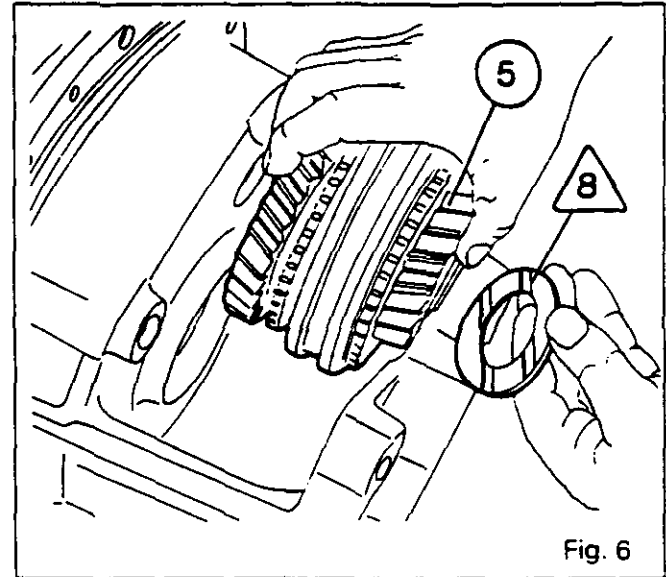

Fig. 6
33. If removed, place the washer /35\ pointing the grooves towards the gear (27). Using a press and an appropriate device, fit the cone (24) fully home on the washer.
34. Fit gear (5) and bush /7\ . Fit the needle roller bearing (6) the cone (4), the ring (3), the synchromesh, the ring (21), the cone (22), the gear (23), the needle roller bearing (20).
**Note : Place the washer /8\ pointing the lubrication grooves towards the gear (5) (Fig. 6).**